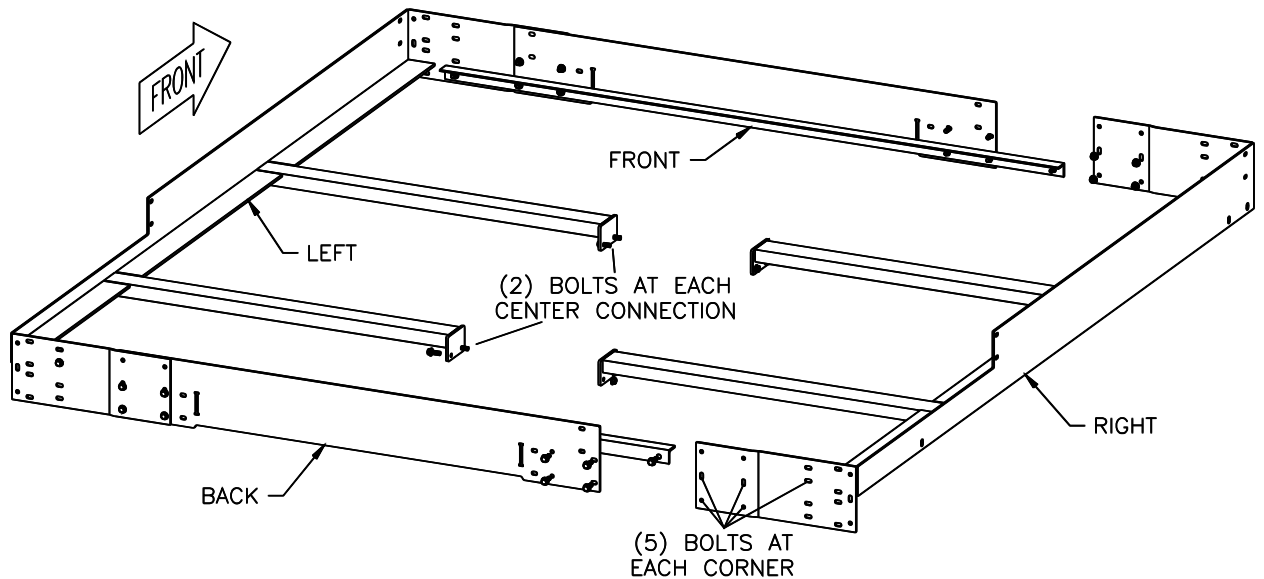

Fig 21 – Platform Frame Assembly - MDT_2 ONLY
- 38) Apply 80 ft-lbs setting torque to each anchor nut. Loosen (two turns) all eight (8) anchors on the two (2) right side legs to allow some movement when setting the platform frame.
- 39) Assemble the four platform frame sections (MDT2 ONLY) with (24) 3/8x1 flanged bolts and nuts, **Fig 21**.